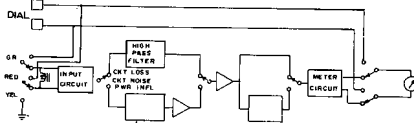

FIGURE 2. Block Diagram
3.03 Figure 2 shows a block diagram of the T-136B test set.